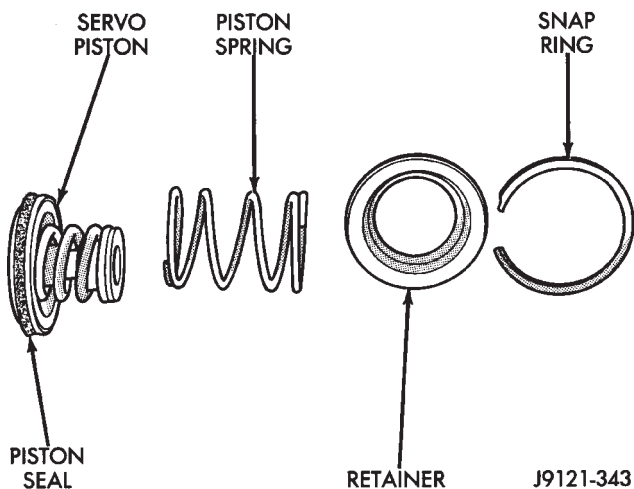

Fig. 153 Rear Servo Components
(1) Install rear servo piston, spring and retainer (Fig. 153). Install spring on top of servo piston and install retainer on top of spring.